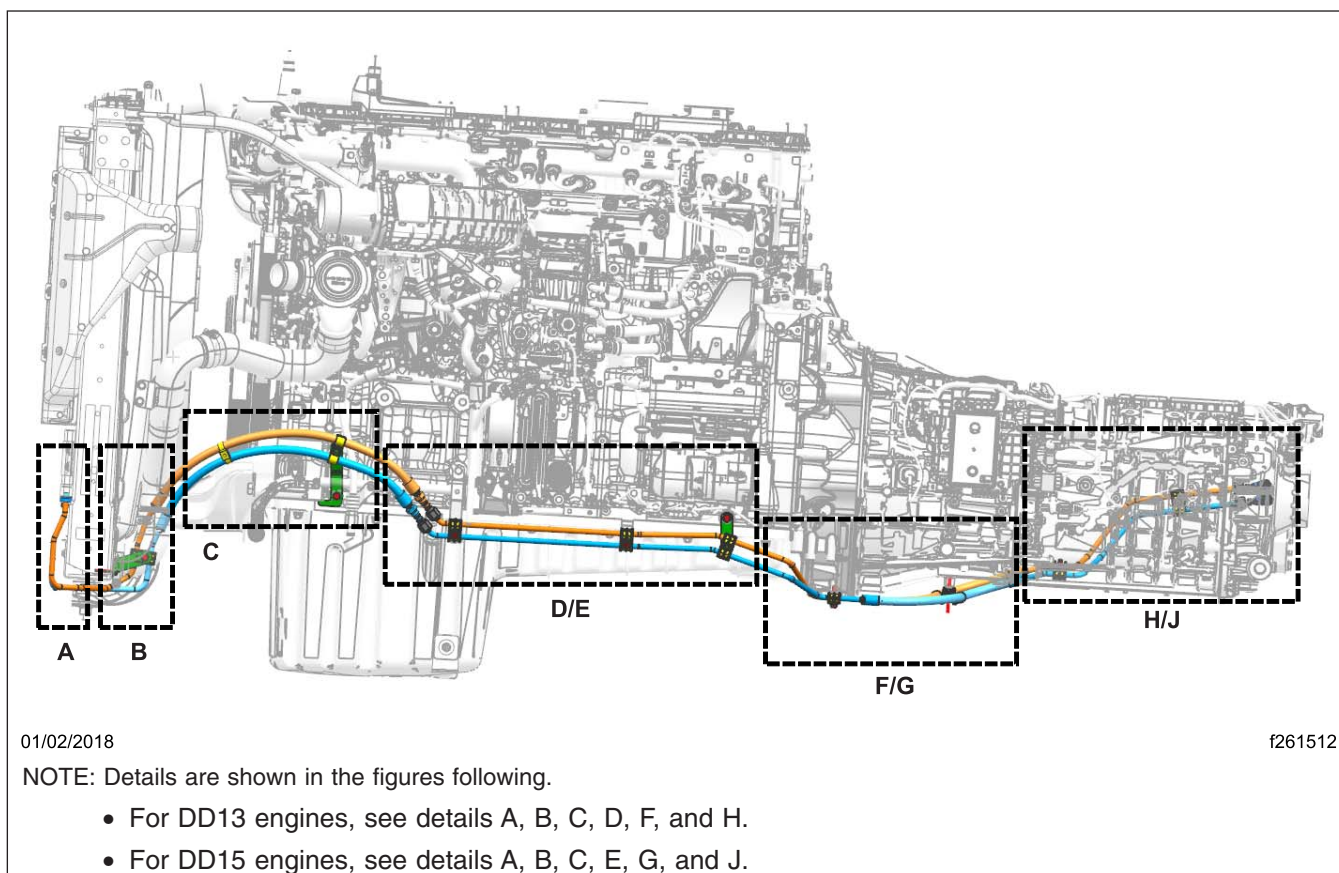

Fig. 15, New Cooler Line Install
2. Fit the new cooler lines, according to the install diagram (**Fig.15**).